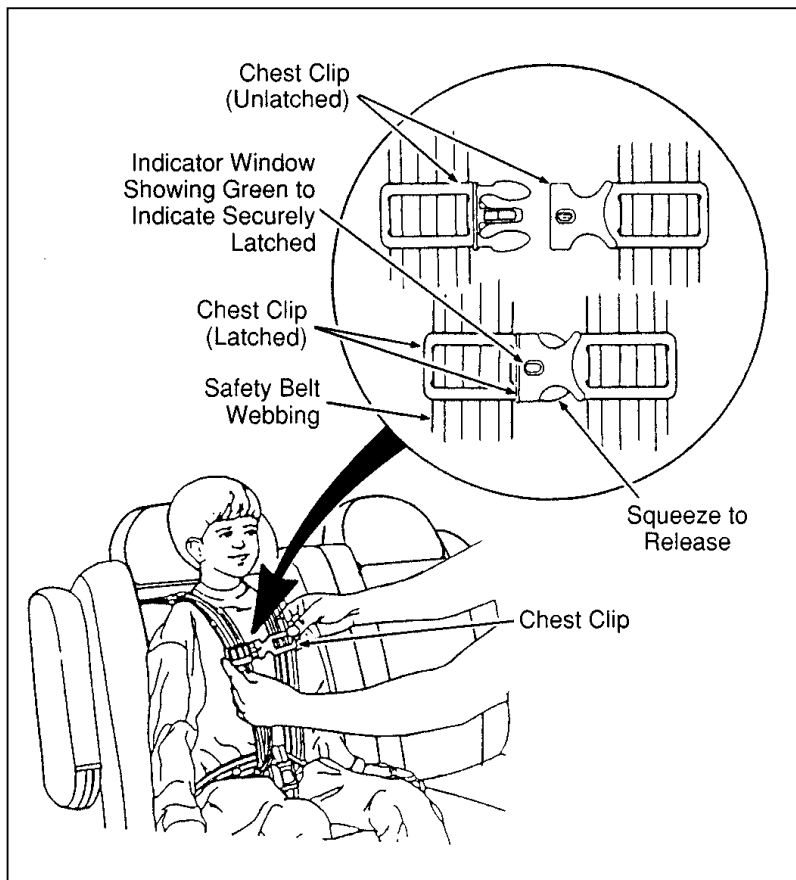

Figure 5: Securing the chest clip
6. Fasten both halves of the chest clip below the child's shoulders and adjust it to comfortably hold the shoulder belts in place on the child's chest. The color green must appear in the indicator window when fastened. (The purpose of this clip is to position the shoulder belts correctly on the child's shoulders.) Refer to Figure 5.
1. Open the chest clip. Refer back to Figure 5.
6. Allow the belt to retract. A clicking sound will be heard as the belt retracts. This indicates the retractor is in the automatic locking mode. Pull on the lap belt portion across the child seat towards the buckle and continue to pull up on the shoulder belt portion while pushing down on the child seat allowing the shoulder belt to retract, to remove any slack in seat belt. See Figures 5 and 6.